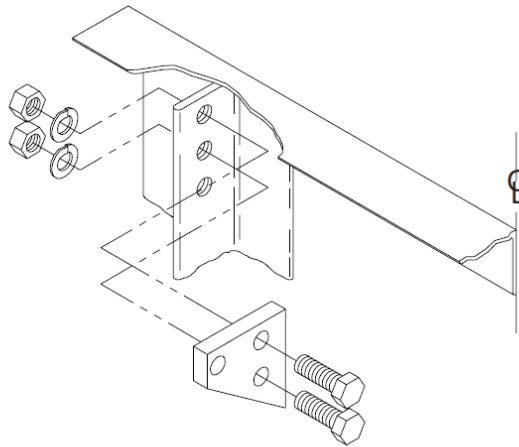
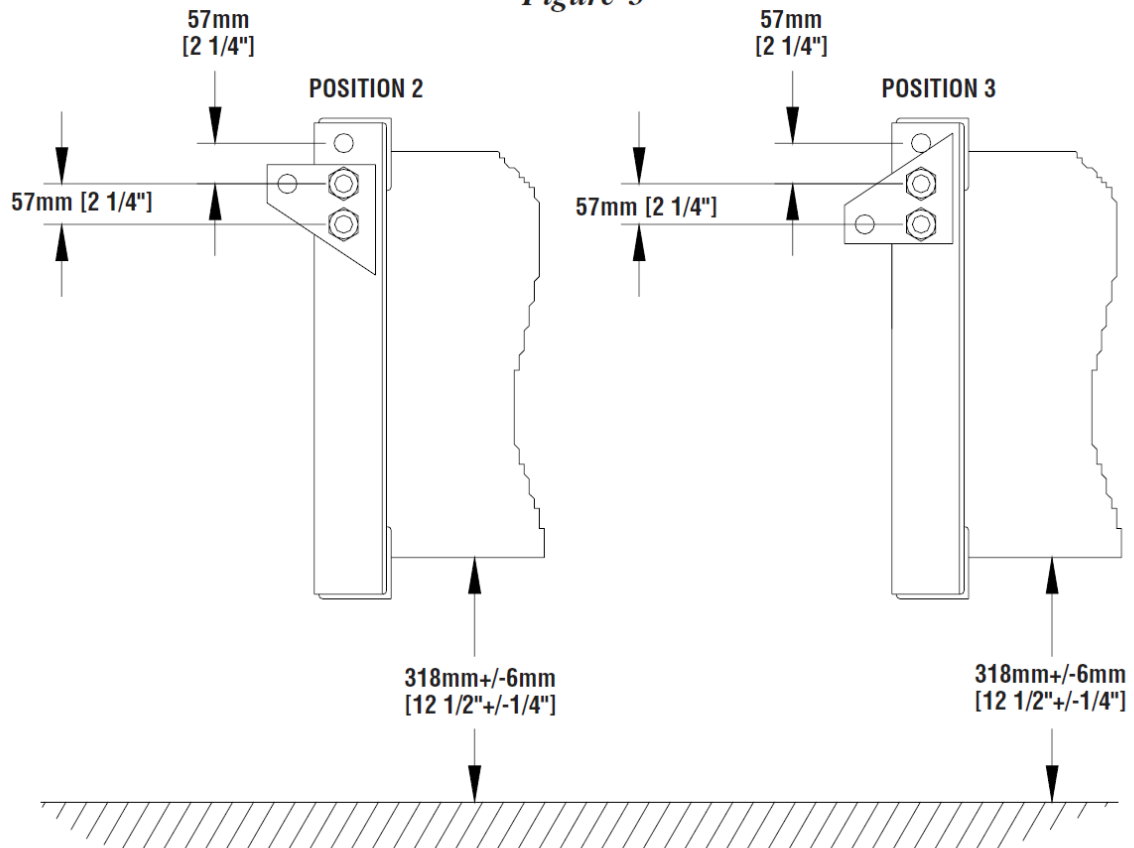

Figure 3
Figure 4
6. Cut a 13mm [1/2"] thick piece of steel plate to shape and weld it between the rear frame members, as shown in Figure 3. Each side of the plate should be welded to the frame member with a minimum 380mm [15"] long, 6mm [1/4"] weld.
7. Attach the Backup Attachment brackets (P.N. 2725481-0000) to the upper two holes in the backup using the 1" dia. x 3" long hex head bolts, lock washers, and nuts provided; reference Figure 3. Torque the nuts to 250 ft-lbs. [338 Nm] (Note: If the truck has especially low frame, it may be desirable to attach the backup attachment brackets in one of the alternate positions shown in Figure 4.